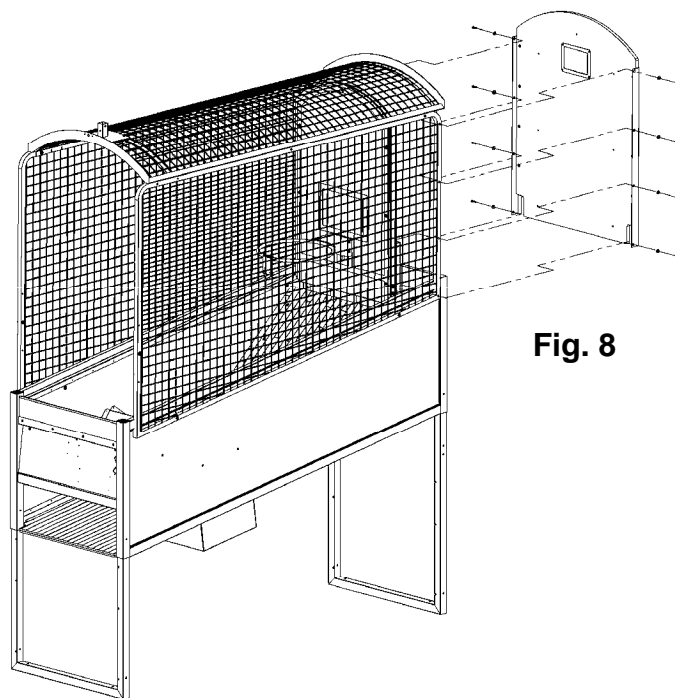

Fig. 8
Unwrap the Backboard assembly and attach to the Cage Assembly using (8) 1/4-20 x 5/8" black Button Head Cap Screws and (8) 1/4 flat black washers. (See Fig. 8)